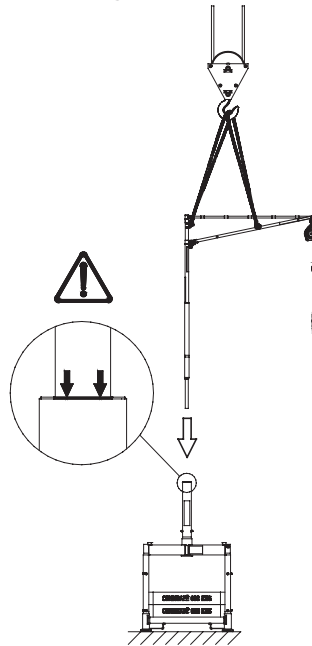

Figure 30. Placement of the SkyReach unit into Top Column 4.7.
11. Use a crane to lift the assembled SkyReach Anchor and lower it into the Top Column 4.7/SkyReach Adaptor 5.9, see Figure 30. Use the Reach Hook to guide the SkyReach into place if needed. Make sure that the correct length of the SkyReach is inserted. The upper edge of the column/adaptor sleeve must be aligned with the lower edge of the label, see Figure 30.